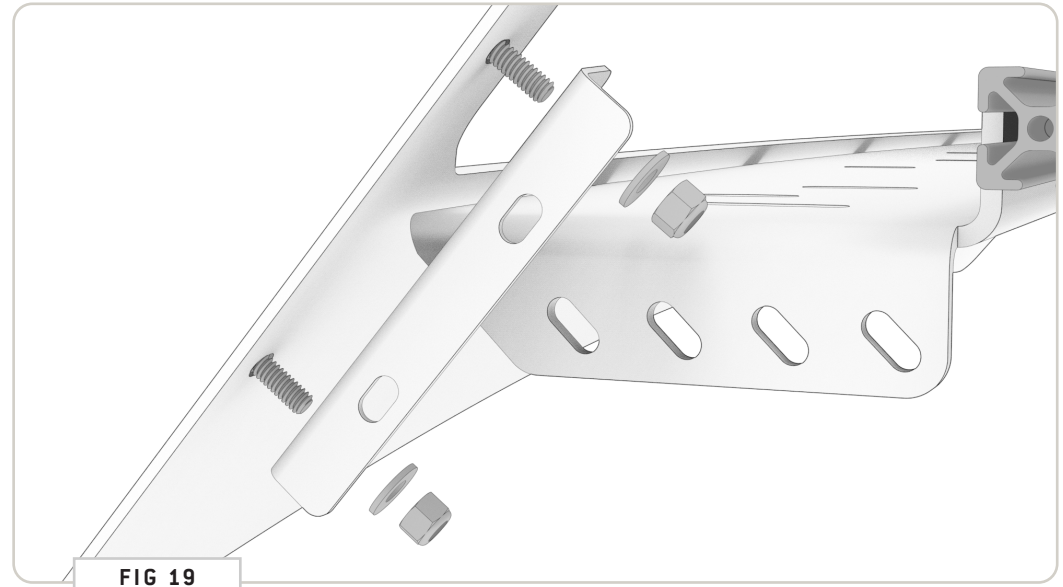

FIG 19
**5.4 Attach Fairing Side Brackets:** Loosely attach **Fairing Side Brackets** to the **Fairing Assembly** using **1/4"-20 Flanged Head Screws, Flat Washers and Nylock Locknuts**. Note that the flanged face of these Fairing Brackets will face outward as shown in **FIG 19**.